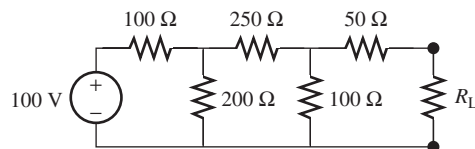

FIGURE P3.75 Circuit for Problem 3.75.
3.75 (A) Determine the maximum power transfer for the circuit shown in Figure P3.75.